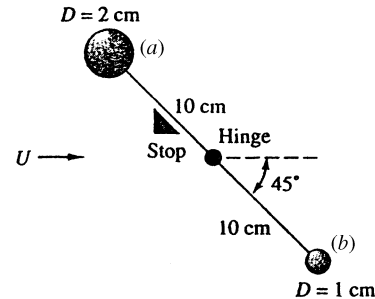

Fig. P7.99
**7.99** Two steel balls (SG = 7.86) are connected by a thin hinged rod of negligible weight and drag, as shown in Fig. P7.99. A stop prevents counter-clockwise rotation. Estimate the sea-level air velocity  $U$  for which the rod will first begin to rotate clockwise.